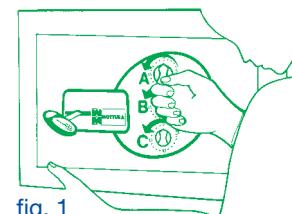

fig. 1
- Bring knobs A, B and C into the zero position by rotating them counter-clockwise, as shown in fig. 1.
- Bring the three knobs A, B and C into the zero position by rotating them counter-clockwise as shown in fig. 1.
- Rotate the combination change pin counter-clockwise from position E to position F, as shown in fig. 2 and bring knobs A, B and C back to the zero position, as shown in fig. 1.